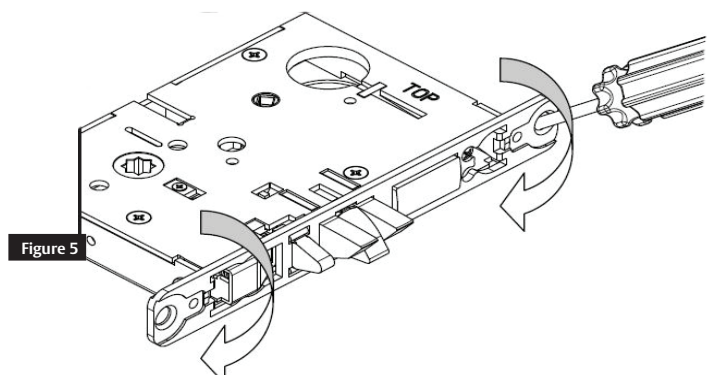

Figure 5
Step 5) Rotate lock front to match bevel of the door as shown. (Figure 5)